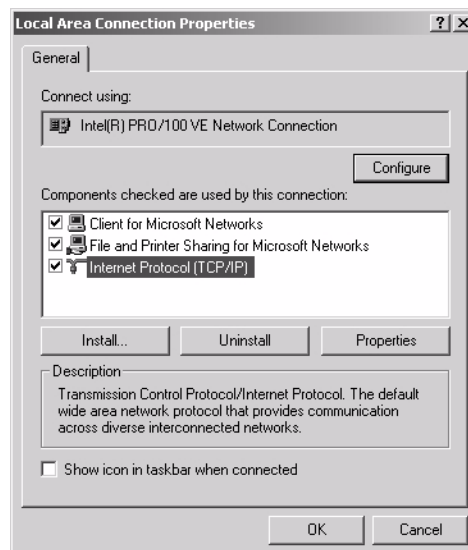

Figure 66: Local Area Connection Properties - Windows 2000
2. Right-click the Local Area Connection icon that represents the terminal network connection and select Properties from the popup menus. The Local Area Connections Properties window appears as shown in Figure 66.